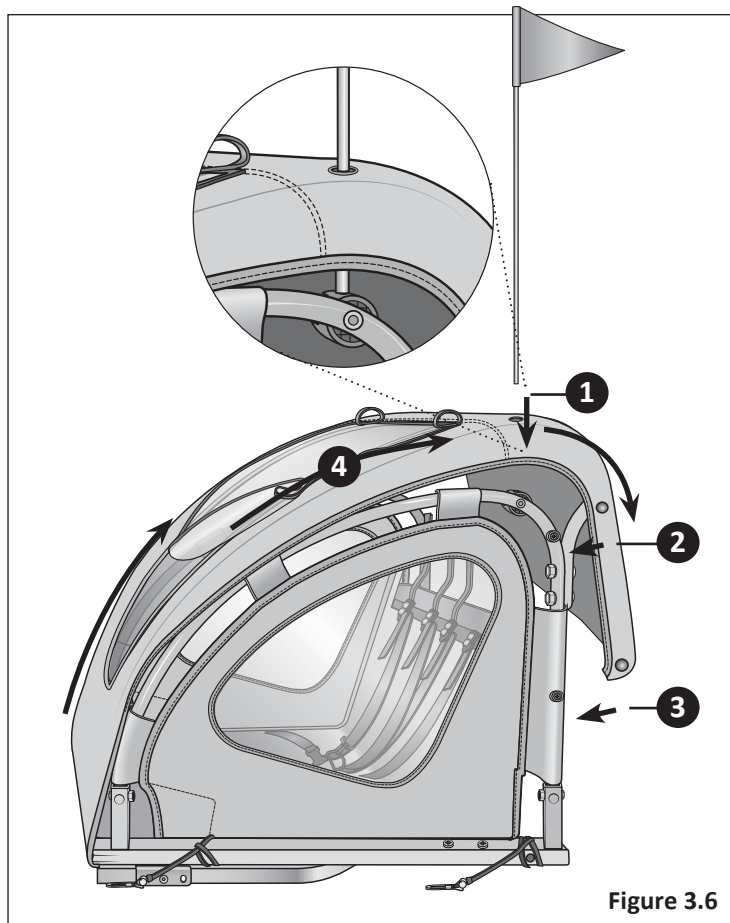

Figure 3.6
- 1 While pulling the canopy up and over the top of the frame, insert the flag pole through the flag pole slot on the canopy and into the flag pole attachment hole located on crossbar latch. **Figure 3.6**